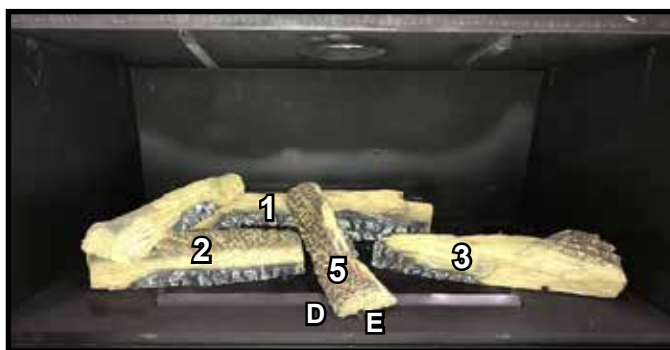

Figure 7. Log #5 Installed
**LOG #5:** With the burnout area of Log #5 facing right, place the larger end of the log between shoulder screws D and E indicated in Figure 7. Lean Log #5 between Log #2 and Log #3 so that it rests on the flat spot of Log #1. See Figure 7.